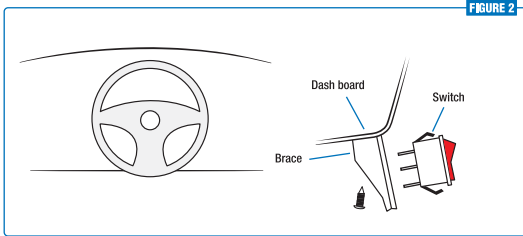

FIGURE 2
- 6 Install the switch to the dashboard. If an opening is not available on your dash, find a location to mount the brace. Make sure there are no obstructions behind the switch location. See Figure 2